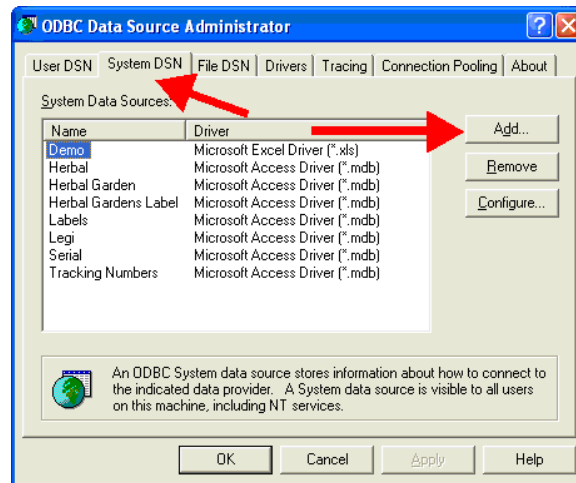

Figure 2-11
2.5.2. Select the *System DSN* tab and click [Add] (Figure 2-11)